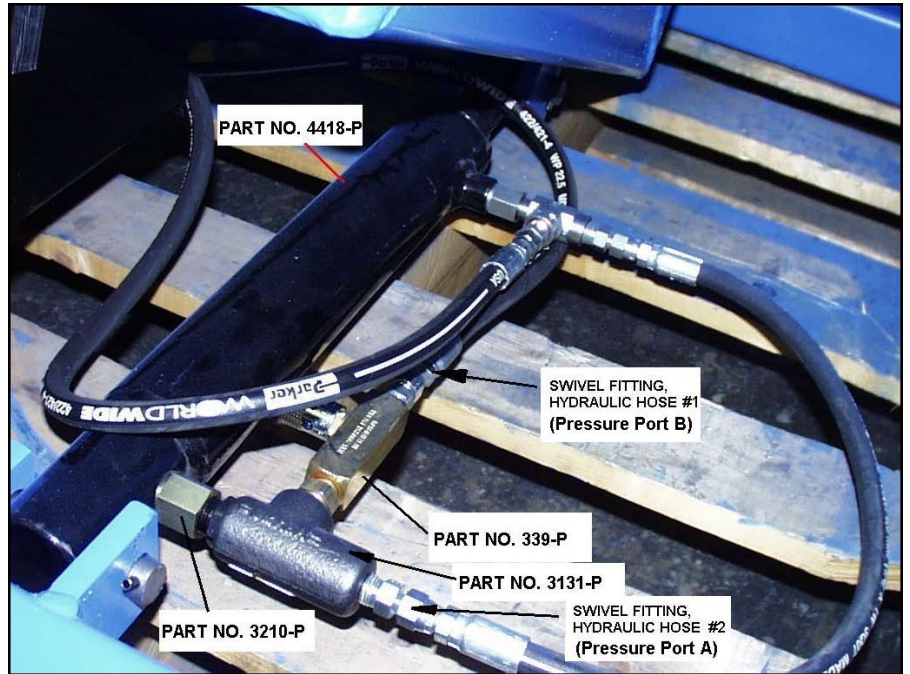

Figure 1
2. Remove hydraulic hose #1 at the swivel fitting (figure 1).
3. Remove hydraulic hose #2 at the swivel fitting (figure 1).
4. Rotate the 339-P and 3131-P (figure 1) assembly about 90 degrees up to allow clearance to remove the 339-P. This will not be used.
6. Remove 3210-P (figure 1) adaptor from hydraulic cylinder port. This will not be used.